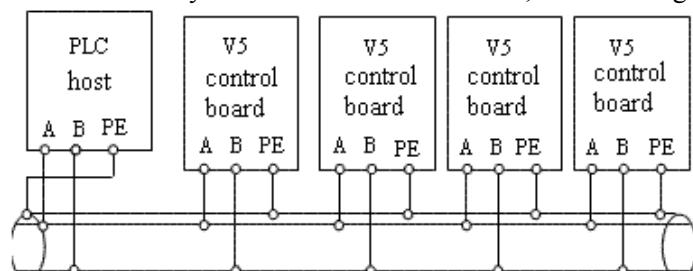
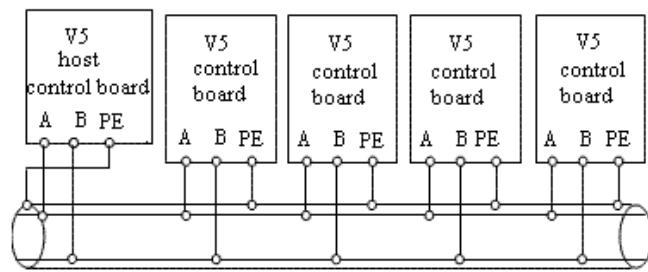

Fig. 2-10 Connection of PLC and inverters
Fig. 2-11 Connection of several inverters
- More than one inverters can be connected through RS485 with the PLC(or PC) as the host, as shown in Fig.2-10; Also, you can select one inverter as host and the other inverters as slaves, as shown in Fig.2-11. Because with increasing of the inverter's quantities, the communication system will be interfered easier, the following wiring is recommended.